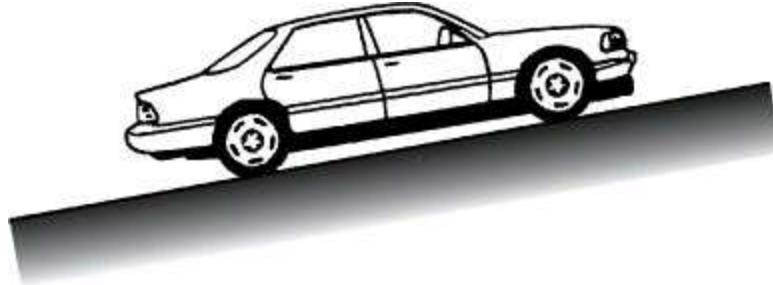

Figure 9.10. Gain of potential energy by an electric automobile going uphill
9.2.4. Potential Energy (PE)
Potential energy (PE) is energy a system possesses because of the force exerted on its mass by a gravitational or electromagnetic field with respect to a reference surface. When an electric car or bus goes uphill, it gains potential energy (Figure 9.10), energy that can be recovered to some extent by regeneration—charging the batteries when the vehicle goes down the hill on the other side. You can calculate the potential energy in a gravitational field from